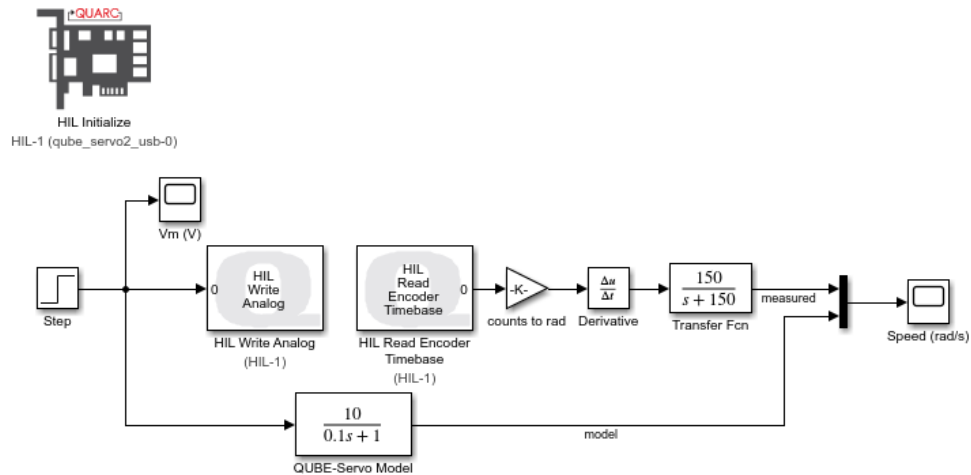

Figure 2.3: Validating step response model
- To check if your derived model parameters  $K$  and  $\tau$  are correct, modify the Simulink diagram to include a Transfer Fcn block with the first-order model in Equation 1.1, as shown in Figure 2.3. Connect both the measured and simulated QUBE-Servo 2 responses to the scope using a Mux block (from the *Signal Routing* category). Build and run your **QUARC®** controller. Attach a **MATLAB®** figure displaying both the measured and simulated response in one plot, as well as in the input voltage.